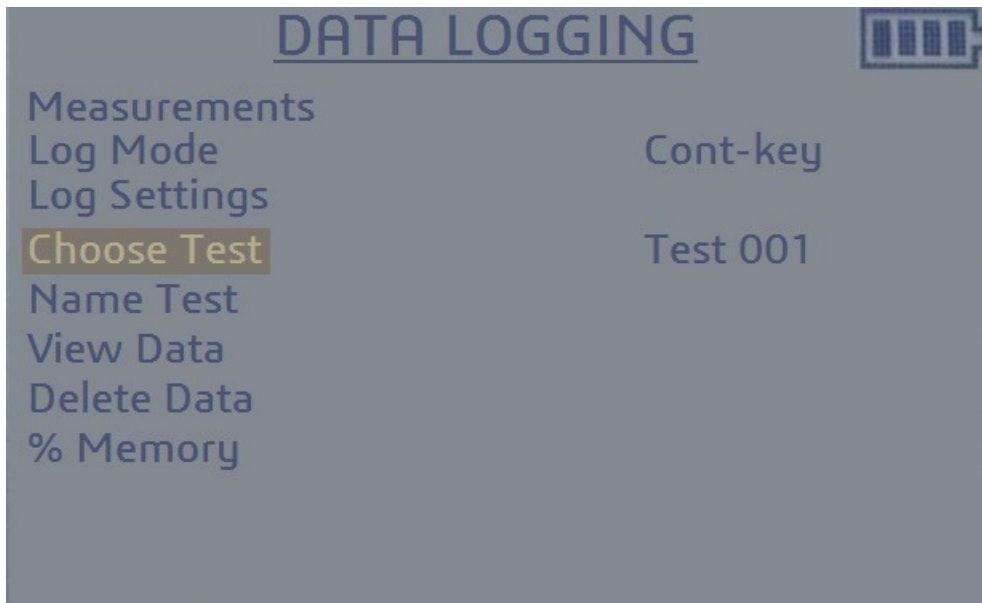

Figure A.10.9: The “Data Logging” screen with the “Choose Test” option highlighted.
17. The “Data Logging” screen has a “Choose Test” option as shown on Figure A.10.9. To the right of this option, the words “Test ###” are present, with “###” indicating the test number to which all the measurements will be saved under. If readings taken across multiple ducts are required, complete the first set of measurements for one duct. Then, come back to the “Choose Test” option and use the right soft key to navigate to the next test number.